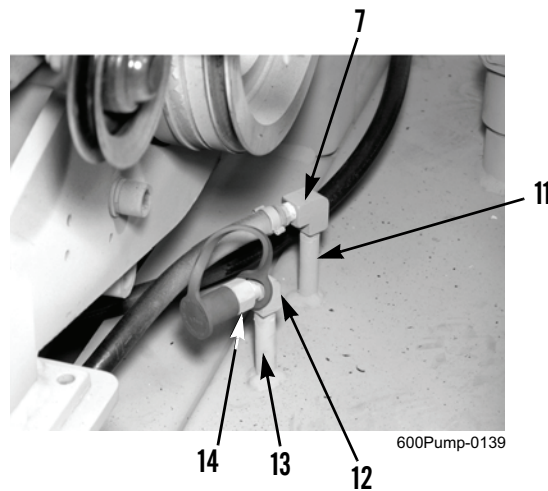

Figure 3. Fuel Tank Fittings.
3. Remove elbow fitting (Figure 3, Item 7) from fuel tank nipple (Figure 3, Item 11).
4. Remove quick disconnect fitting (Figure 3, Item 14) and elbow fitting (Figure 3, Item 12) from fuel tank nipple (Figure 3, Item 13).